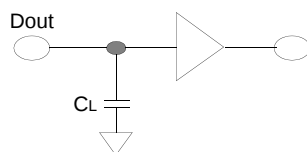

Figure 45. Output Load
- Output load (See Figure 45): CL=50pF